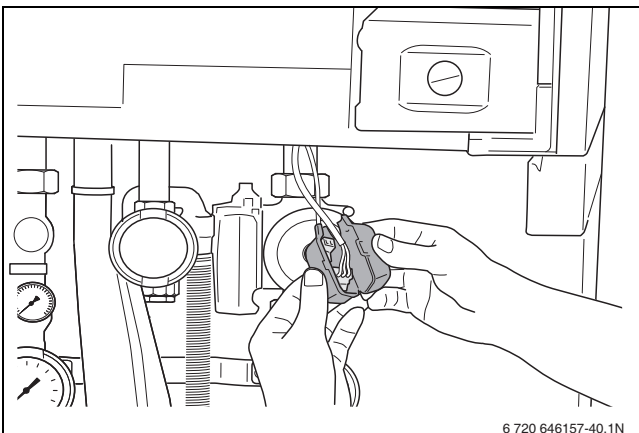

Fig. 43 Removing the covers
- ▶ Remove the covers of both free connectors on the function module connection cables (→ fig. 43).
- ▶ Connect the free 120 VAC mains cable (→ fig. 43) to the module [1]. If more modules are used, the 120 VAC supply for the second module can be taken from the first module using the cable enclosed with the module.